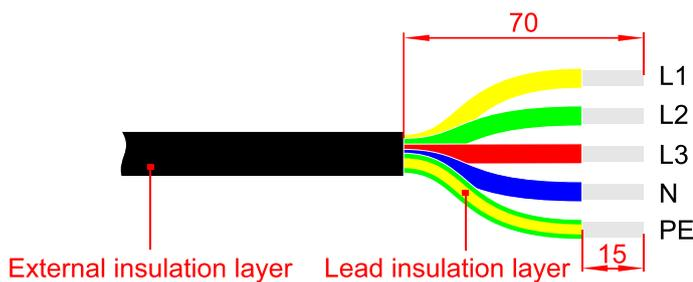

Figure3-25 Strip the AC output wire (unit: mm)
- Step 1 Strip the external insulation layer of AC wire for about 70mm, strip the inner lead insulation layer for about 15mm, as shown in Figure3-25.